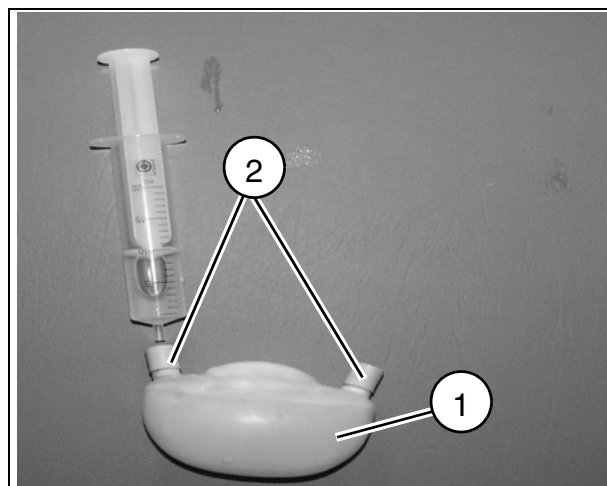

Fig. 20
- Fill the water bladder with water (approx. 100 - 120 ml, i.e. 5 - 6 syringes, each 20 ml) (1/Fig. 20):
2. Insert the syringe needle through one of the valves (2/Fig. 20) and empty the syringe contents in the water bladder. The valve has a self-closing membrane.